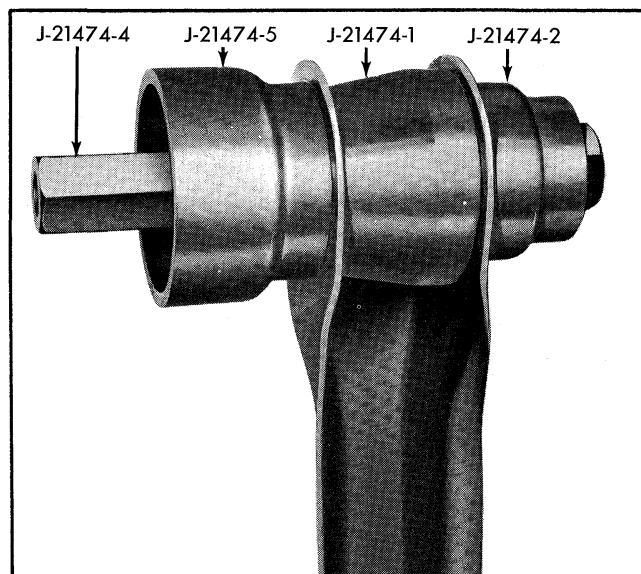

Fig. 3-29 Installing Bushing
3. Replace using components of tool J-21474 as shown in Fig. 3-29. Tighten pivot bolt to 75-100 lb. ft. torque.